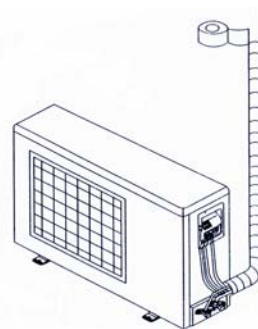

Fig.5
- (1) Use adhesive tape to bundle the connecting pipe and the cables together. To prevent condensate from overflowing out from the drainage pipe, separate the drainage pipe from the connecting pipe and the cables.
- (2) Use thermal insulation tape to wrap the pipes from the bottom of the outdoor unit until the upper end of the pipe where the pipe enters the wall. When wrapping thermal insulation tape, the later circle of tape must cover half of the front circle of tape (Refer to Figure 5).
- (3) Wrapped pipe must be fixed to wall using pipe clamps.